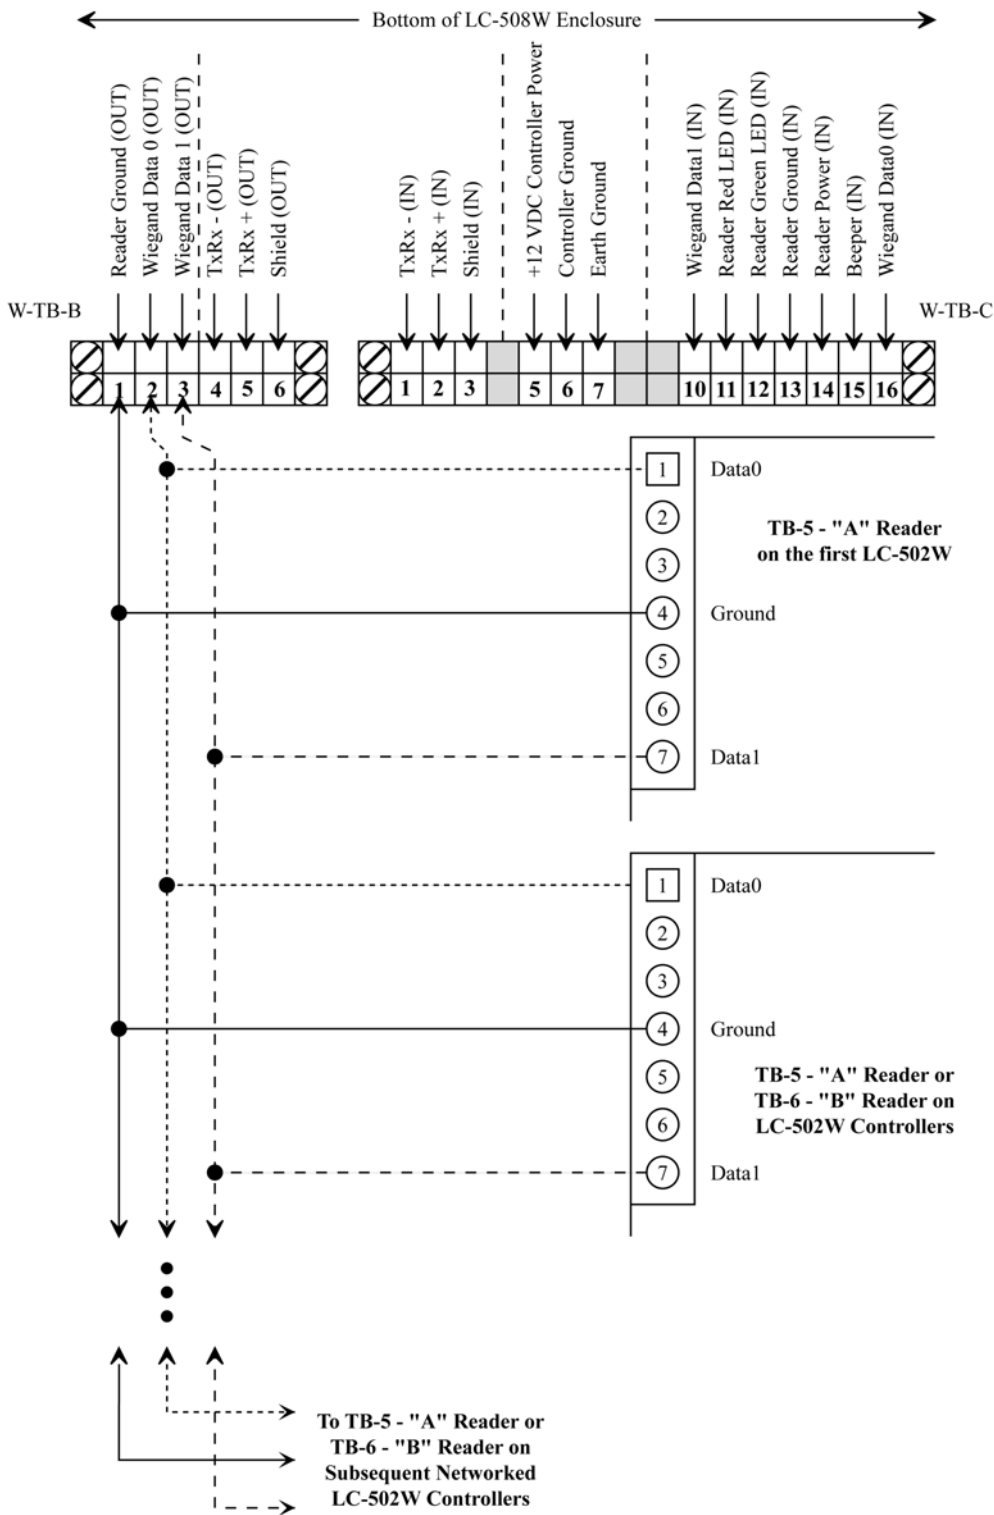

Figure 12: LC-508W Panel to LC-502W Wiegand Reader Wiring Connections
2. Daisy-chain the Wiegand Data0, Ground, and Data1 reader connections from W-TB-B to the LC-502W panels. Make the connections per the information in Table 7 and Figure 12 on page 19.